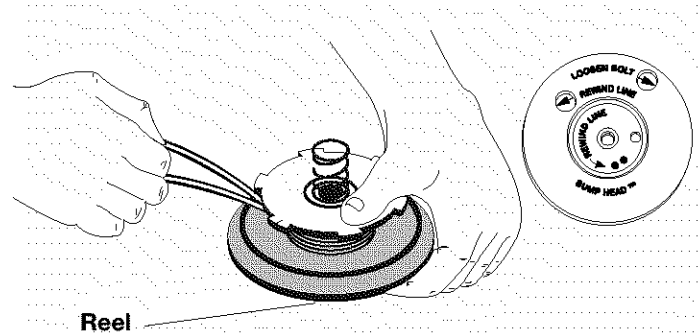

Fig. 32
2. Place your index finger between the two lines to stop the lines from overlapping (see Fig. 32).
3. Wind both lines at the same time in even and tight layers onto the reel, in the direction indicated on the reel (Fig. 32).